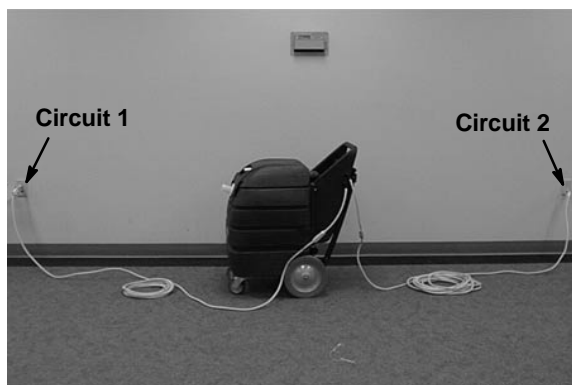

FIG. 3
5. Connect equipped extension cords to pig tails on machine and plug each cord into a separate grounded circuit (Figure 3).